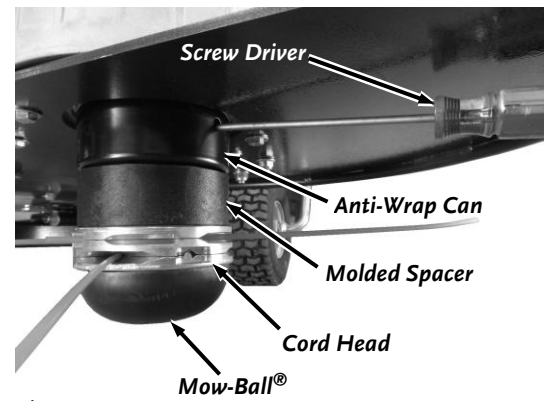

Figure 22
1. Align the hole in the Anti Wrap Canister with the hole in the internal housing at the location shown (**Figure 22**).